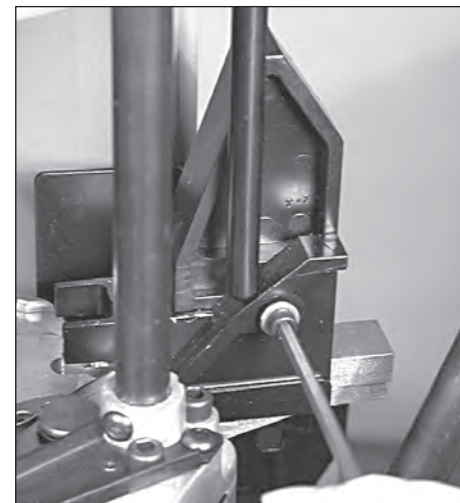

FIG 185
1. Using a 5/32" Allen wrench, remove the cam screw **FIG 185** and reverse the case insert slide.